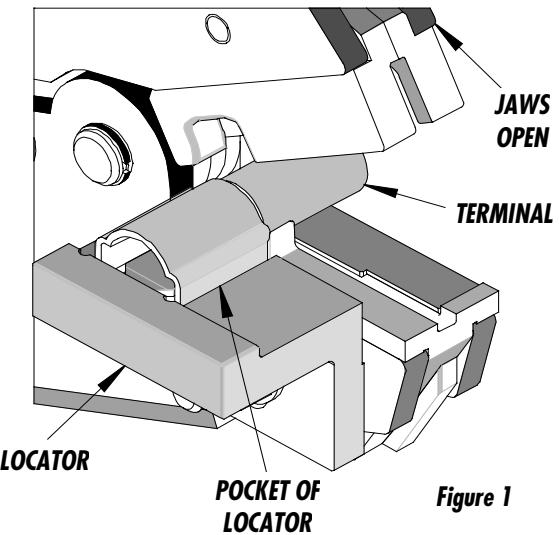

Figure 1
2. **Position the terminal with the barrel facing up into the color-coded nest. Make sure the end of the terminal fits into the locator pocket securely and the front edge of the barrel is flush against the front edge of the locator, (See Figure 1).**